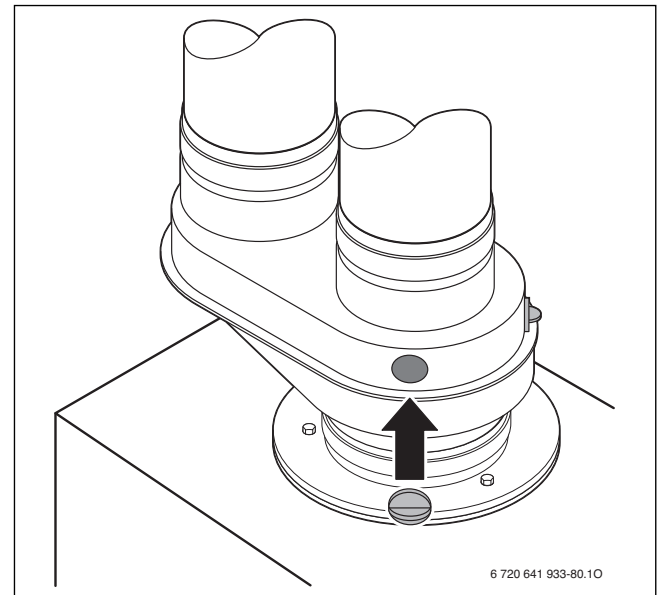

Fig. 80 Close flue gas test ports
- Remove flue gas probe and close the flue gas test port properly (→ Fig. 80).